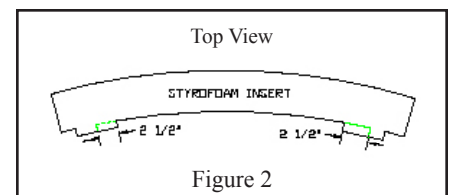

Figure 2
7. Before replacing the bumper molding the styrofoam insert will have to be trimmed. **See Figure 2.** Replace the bumper molding and lower rock guard.